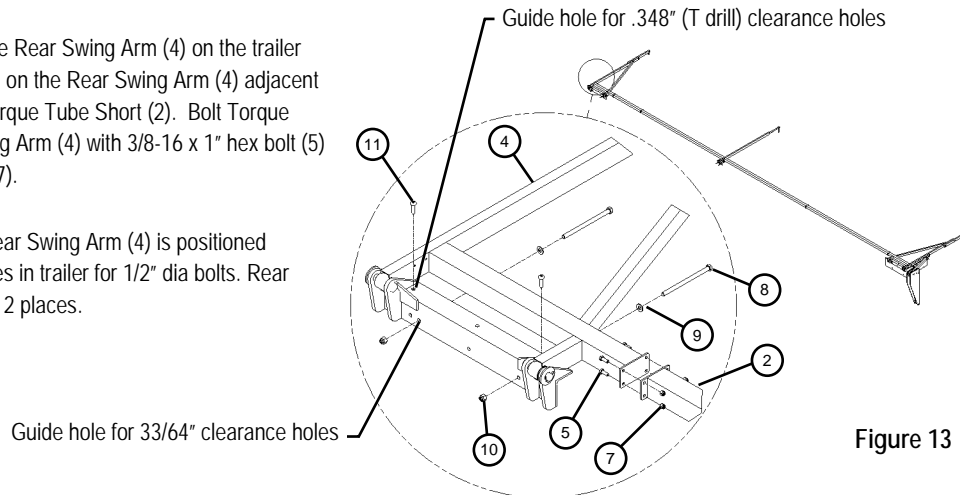

Figure 13
10. See *Figure 13*. Place the Rear Swing Arm (4) on the trailer and position the flange plate on the Rear Swing Arm (4) adjacent to the flange plate on the Torque Tube Short (2). Bolt Torque Tube Short (2) to Rear Swing Arm (4) with 3/8-16 x 1" hex bolt (5) and 3/8-16 Nylock hex nut (7).
11. See *Figure 13*. Once Rear Swing Arm (4) is positioned correctly, drill clearance holes in trailer for 1/2" dia bolts. Rear Swing Arm (4) will be bolted 2 places.
12. Bolt Rear Swing Arm (4) to trailer with 1/2-13 x 8" hex bolt (8), 1/2 flat washer (9), and 1/2-13 hex nut (10). Rear Swing Arm (4) will be bolted 2 places.
13. See *Figure 13*. Drill two .348" (T drill) pilot holes for 3/8" type F bolts using holes on top of rear hinge as a guide.
14. *Figure 13*. Bolt center hinge to trailer with 3/8-16 x 1 1/2" Torx type F bolt (11). Rear hinge will be bolted 2 places.